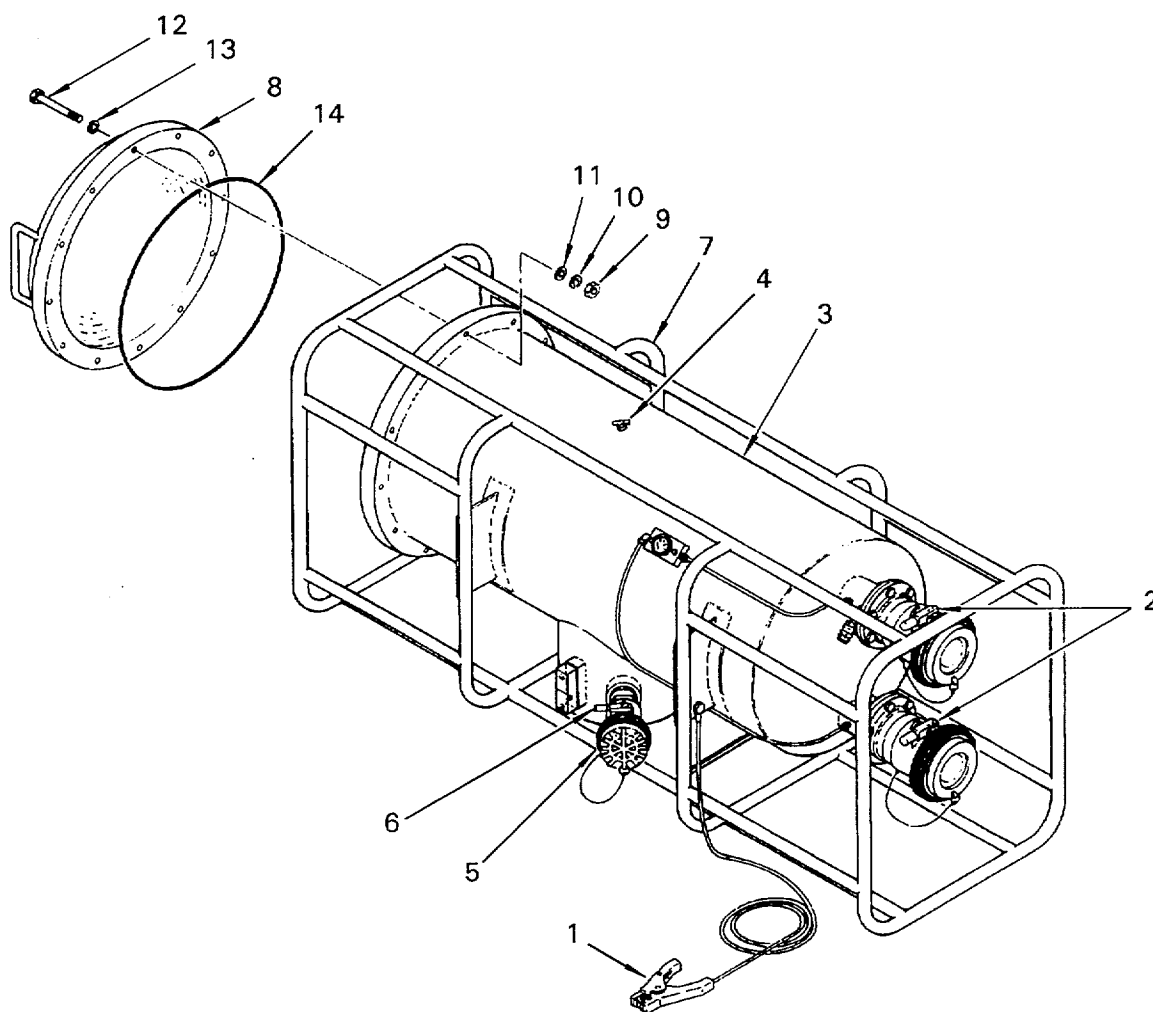

Figure 4-1. Filter Vessel Cover O-Ring Replacement
a. Removal. (Figure 4-1)**WARNING**
(1) Connect liquid fuel filter-separator ground cable (1) to a grounding rod.
- (2) Close inlet and outlet valves (2) on filter vessel (3) and open manual vent valve (4).
- (3) Place a container under the defueling coupling (5), open the defueling coupling valve (6) and drain the filter vessel (3).
- (4) Close the defueling coupling valve (6).
- (5) Raise the liquid fuel filter-separator (7) to a vertical position with the filter vessel cover (8) facing up.
b. Installation. (Figure 4-1)
- (1) Clean O-ring groove and filter vessel (3) seating surface.
a. Removal. (Figure 4-1)